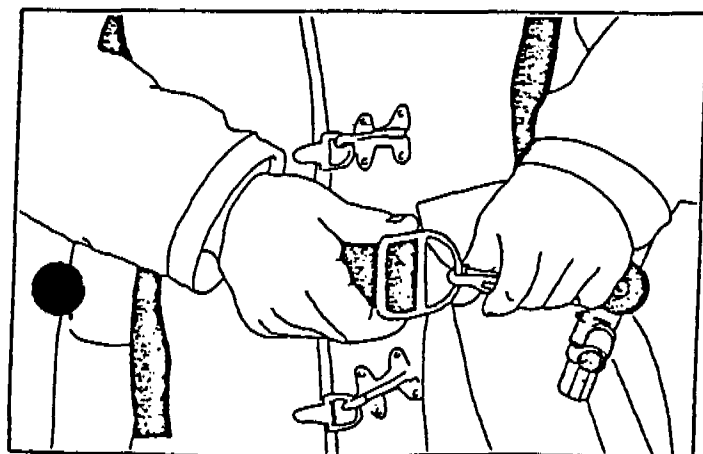

Figure 4A
7. Clip the slide buckle on the waist strap to the snap on the regulator strap. Pull the free end to tighten. (Figures 4A and 4B).